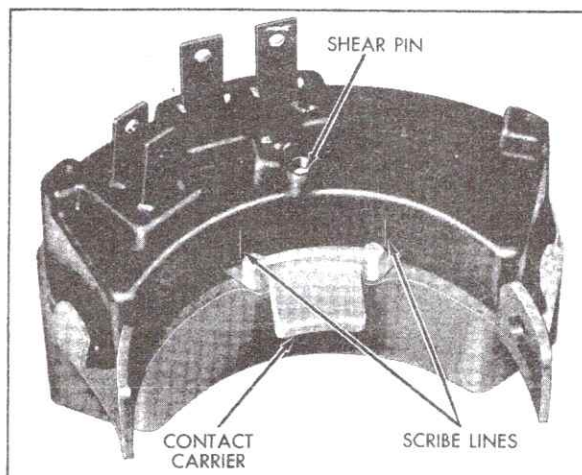

Fig. 12-19 Switch in Neutral
3. Mark position of contact carrier, Fig. 12-19.
3. Move contact carrier on switch assembly to neutral position as marked during removal, Fig. 12-19. If necessary to install a new switch, the switch will be secured in neutral by a shear pin. Do not break pin.